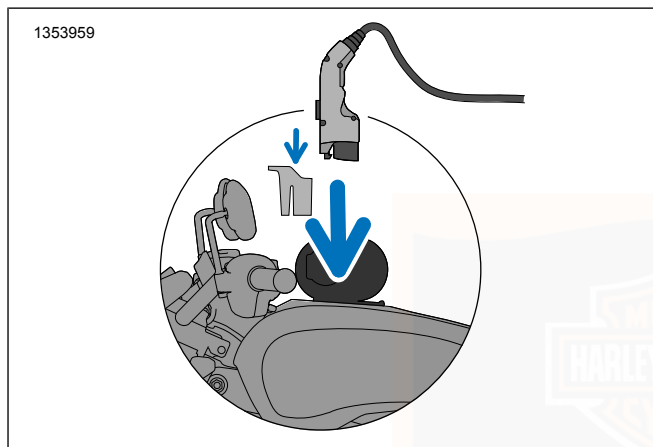

Figure 12. EVSE - Insert Coupler
When charging your motorcycle in a public location using the EVSE, be sure to use the Vehicle Inlet Security Insert to prevent theft of the EVSE. Install the insert into the motorcycle charging inlet, and then connect the charge coupler. See Figure 12. Store the insert with the EVSE in the EVSE caddy when not in use. See EVSE Storage (Page 48).
3. Plug the COUPLER into your vehicle's charging outlet until it clicks. See Figure 12. If inserted properly, the blue light on the CHARGE MODULE will blink once. Once latched, the COUPLER will not disengage unless the release button is manually pressed.